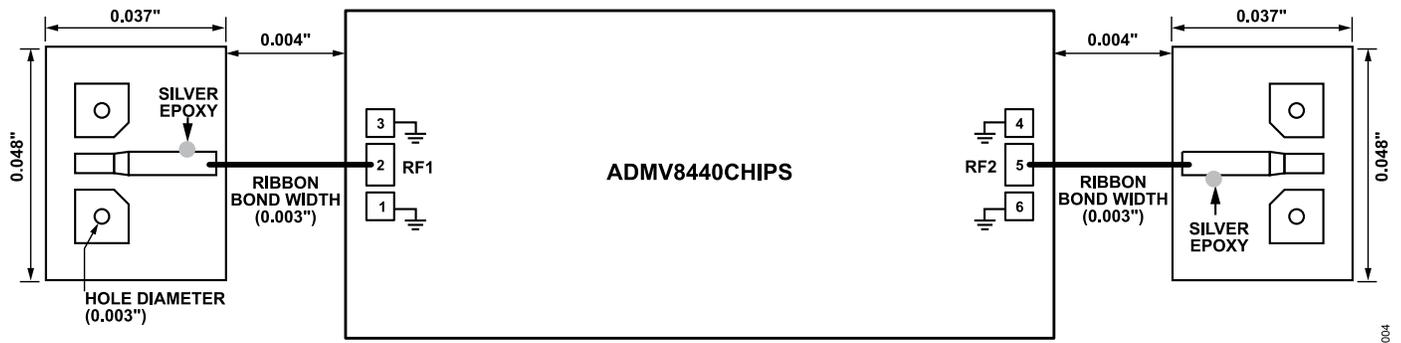

Figure 28. Matching Circuit Using Microstrip
- ▶ A matching circuit for a microstrip implementation can be achieved using a small amount of silver epoxy bonded onto the input and output RF transmission lines. Figure 28 shows an example of the microstrip implementation.